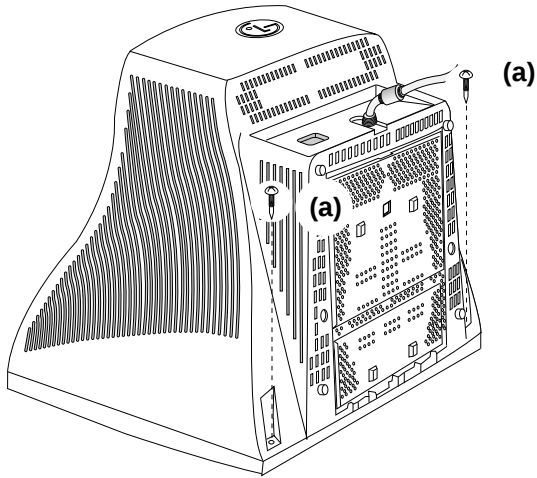

Figure. 1
- 4) Pressing the latch (b), Back cover by pushing it upward. (See Figure. 1)